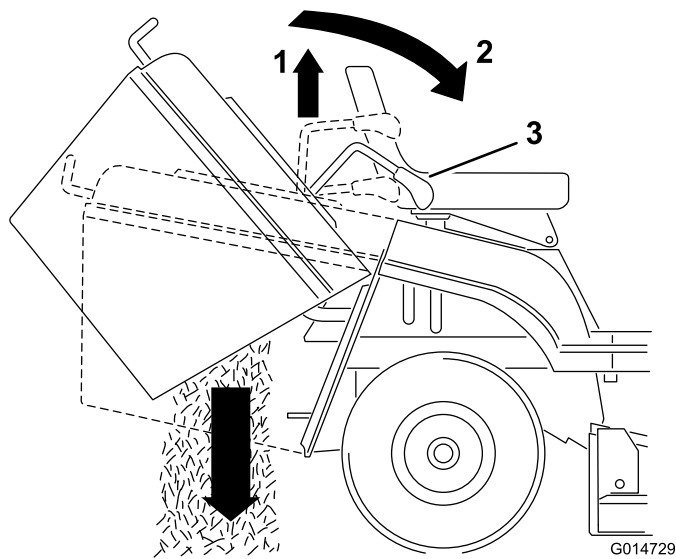

Figure 17
2. Pull out the telescoping dump lever and push it forward and down to tilt the grass collector (Figure 17).